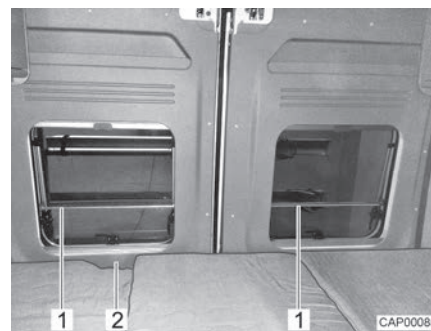

Fig. 49 Fall out protection (longitudinal rear bed)
- ▷ The windows of the rear doors are equipped with a fall out protection (Fig. 49,1). The garage door can always be unlocked from the interior via the opening (Fig. 49,2).